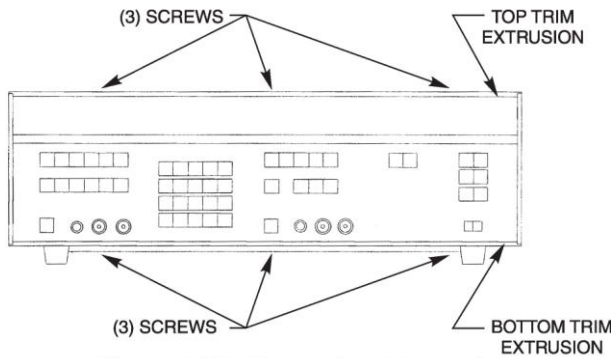

Figure 5-2. Removing Top and Bottom Trim Extrusions
- b. Remove the three screws that hold the top trim extrusion and remove the trim strip (Figure 5-2).